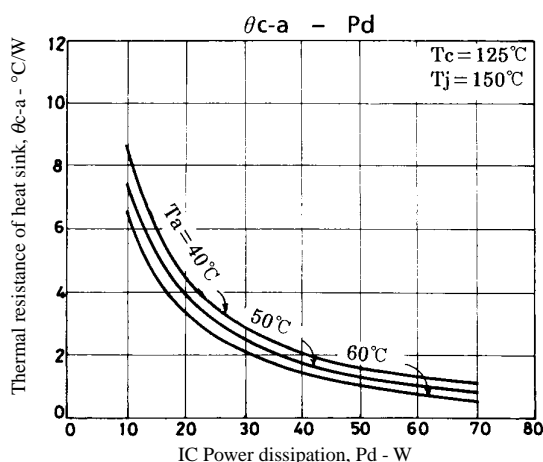

Figure 3. STK4152II θc-a - Pd
Figure 3 shows the relation between Pd and θc-a given from (1) and (3) with Ta as a parameter.
The thermal resistance of a heat sink is obtained from Figure 3.